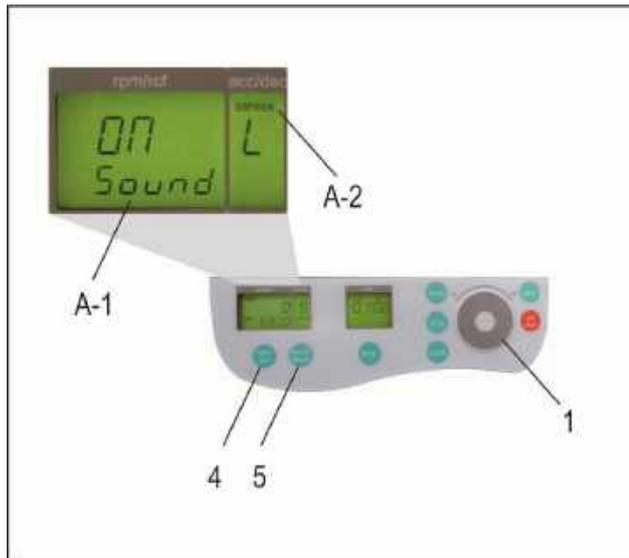

Figure 2
Proceed as illustrated, under point 1.8.2, to enter this program mode, press the key; "accel/decel" (5). In the display, "accel/decel" (A-2) flashes the word, "service". Select the letter, "L" with the control field (1). As a result, appearing in the display "rpm/rcf" (4), are the words, "On Sound". By pressing the key, "rpm/rcf" (4), the word "On" flashes, and the sound can be switched off with the control field (1), (see Figure 2).